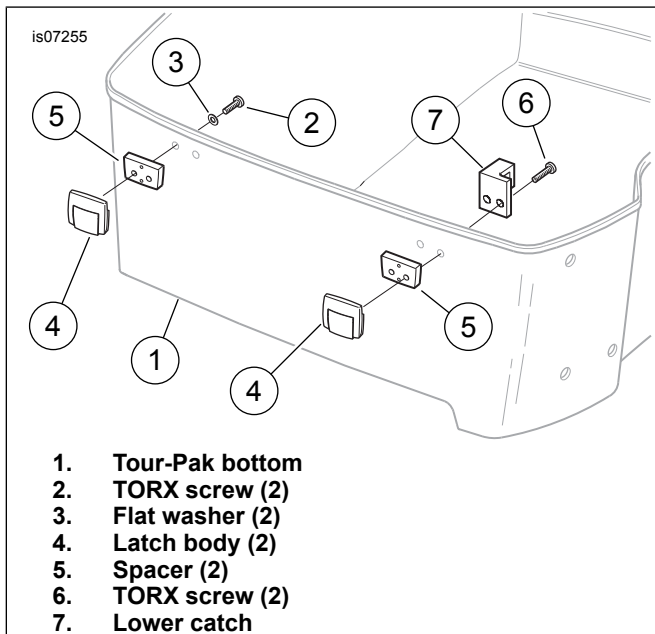

Figure 3. Tour-Pak Bottom Modification for Premium Latch
1. See Figure 3. Remove two TORX® screws (2) and flat washers (3) to release the rear latch (4) and spacer (5) from the right side of the Tour-Pak bottom (1).
4. Get the remaining lower Tour-Pak latch assembly and two #8-32 x 19 mm (3/4 in) long pan head screws (10) from the kit, and the lower catch (see Figure 3, item 7) removed earlier.
7. Carefully open the lid by depressing the release buttons (D) on both front and rear latches simultaneously. The lid should be pushed open slightly by the spring caps (E).
9. Close the lid again to confirm alignment and smooth operation. The lid is properly latched when the release buttons (D) pop out.